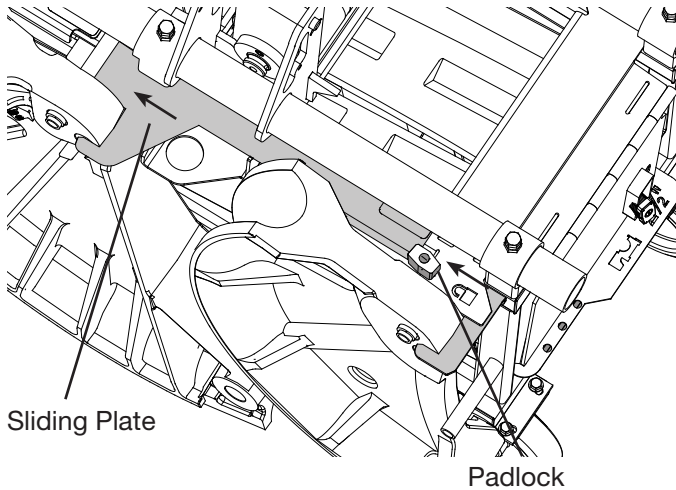

Figure 17
- The 3 in., 3-1/2 in. and 4 in. shoes are locked by sliding the plate with hooks over the shoes and padlocking at the front. (Fig. 17)